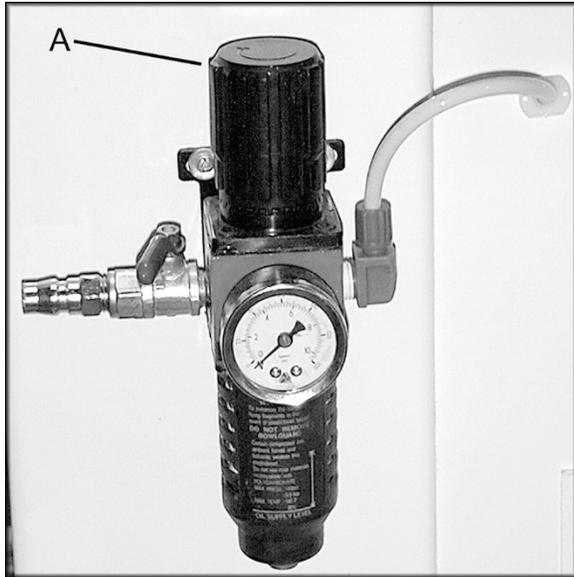

Figure 2
Connect the machine to an air hose. The air pressure that flows into the filter can be adjusted with the knob (A), Figure 2. Normal working air